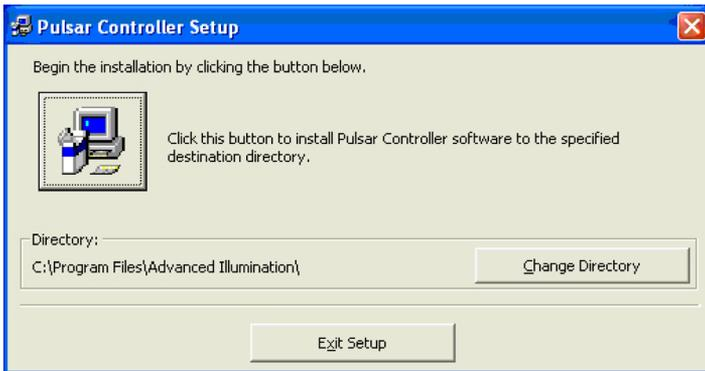

Figure 7: Software installation, destination folder
4. If necessary change the installation folder (using the default is recommended) and click the large button to begin the installation. (See figure 7.)